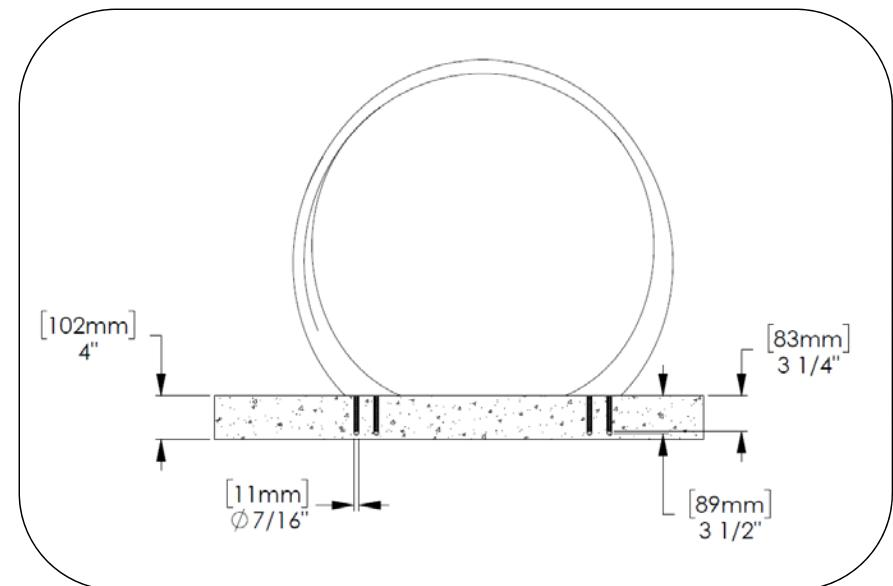

Fig. 2. – Hole size for embedded bike rack
3. Move unit. Drill holes according to Fig. 2.